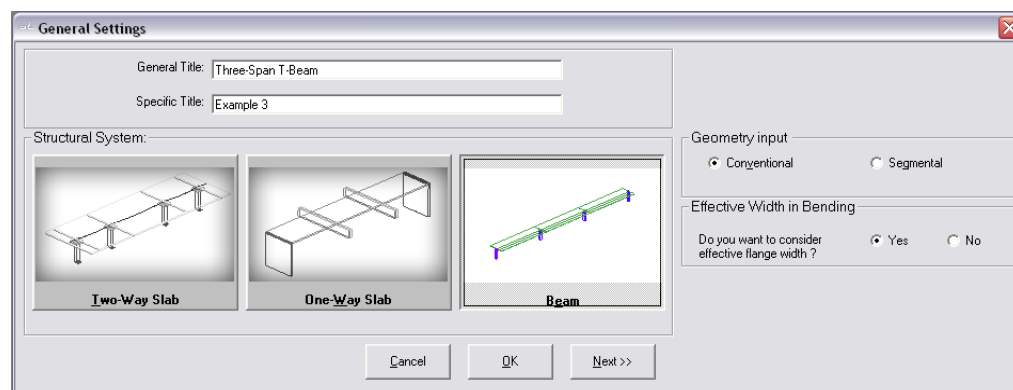

FIGURE 4.2-1
4.2.1.1 General Settings (Fig. 4.2-1)